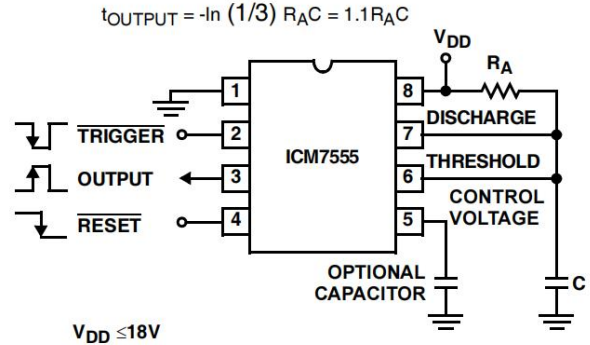

FIGURE 3. MONOSTABLE OPERATION
In this mode of operation, the timer functions as a one-shot. See Figure 3. Initially the external capacitor (C) is held discharged by a transistor inside the timer. Upon application of a negative TRIGGER pulse to pin 2, the internal flip-flop is set which releases the short circuit across the external capacitor and drives the OUTPUT high. The voltage across the capacitor now increases exponentially with a time constant $t = R_A C$. When the voltage across the capacitor equals $\frac{2}{3} V^+$, the comparator resets the flip-flop, which in turn discharges the capacitor rapidly and also drives the OUTPUT to its low state. TRIGGER must return to a high state before the OUTPUT can return to a low state.